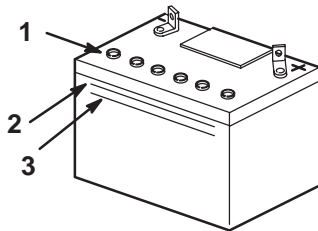

Figure 34
- Look at the side of the battery. The electrolyte must be up to the Upper line (Fig. 34). Do not allow the electrolyte to fall below the Lower line (Fig. 34).
- Remove the vent caps from the battery (Fig. 34).
- Slowly pour distilled water into each battery cell until the electrolyte level is up to the Upper line (Fig. 34) on the battery case.
- Wait five to ten minutes after filling the battery cells. Add distilled water, if necessary, until the electrolyte level is up to the Upper line (Fig. 34) on the battery case.